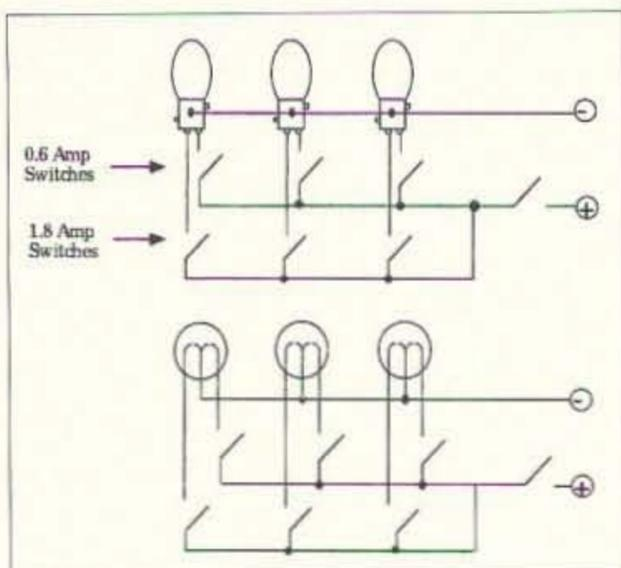

Fig. 1. Diagram and schematic.
**Fig. 1** illustrates a simple load bank using readily available automobile brake/stop lamps. While only three lamps are shown, more can be added as needed. The lamps selected have two filaments in each envelope. One requires 0.6 amps (this is the tail lamp element) and the other 1.8 amps (the brake light element). As shown, the load bank will supply loads of 0.6 to 7.2 amps in twelve 0.6-amp steps (see **Table 1**).